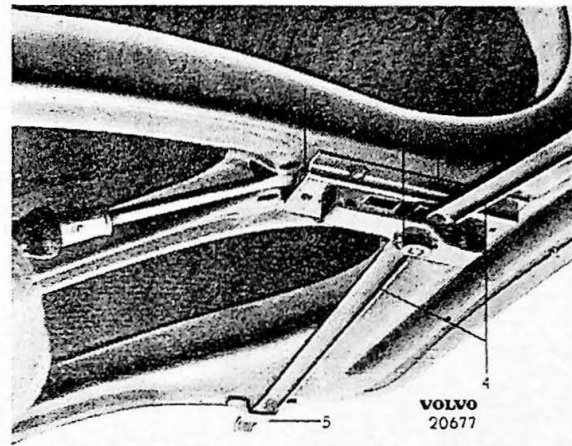

Fig. 13.
If an even harder contact surface between the bottom and sides is desired against the rubber weatherstrip, then the outer ends of the lock links (4 Fig. 13) and the guides (5) are driven towards the edge slightly with a brass hammer.